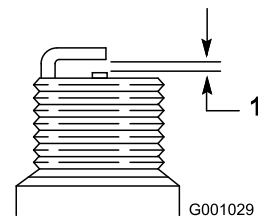

Figure 45
6. Set the gap between the electrodes on a new spark plug at 0.030 inch (0.76 mm) (Figure 45).